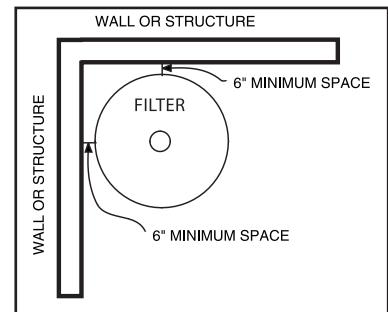

Figure 1.
- Provide sufficient clearance (15cm) around the filter to permit visual verification that the clamp is properly installed, see Figure 1.